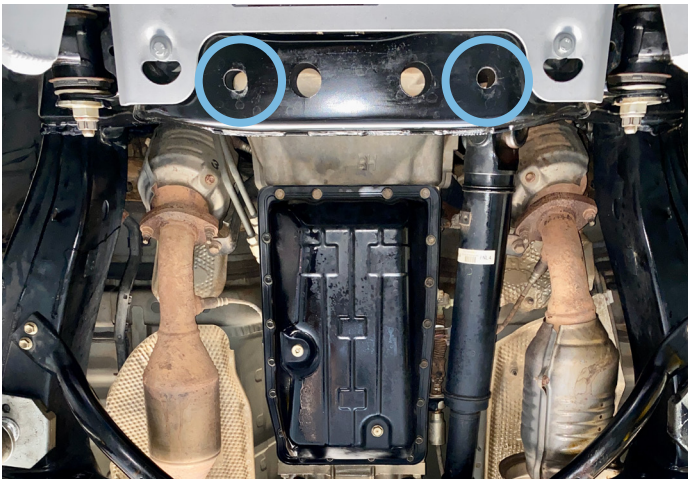

Fig.7
7. Install two M8 insert nuts (item H) into the crossmember as shown in Fig.7.